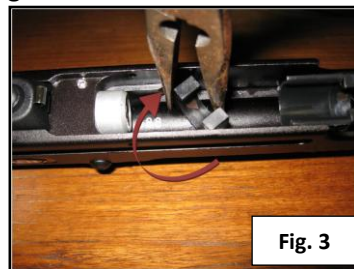

Fig. 3
- D. Use the pliers to turn the clip 90-degrees so it locks into the grooves along the bottom walls of the CO2 chamber (Fig. 3). The Plastic Retainer and the Retainer Clip should be able to slide along the grooves.